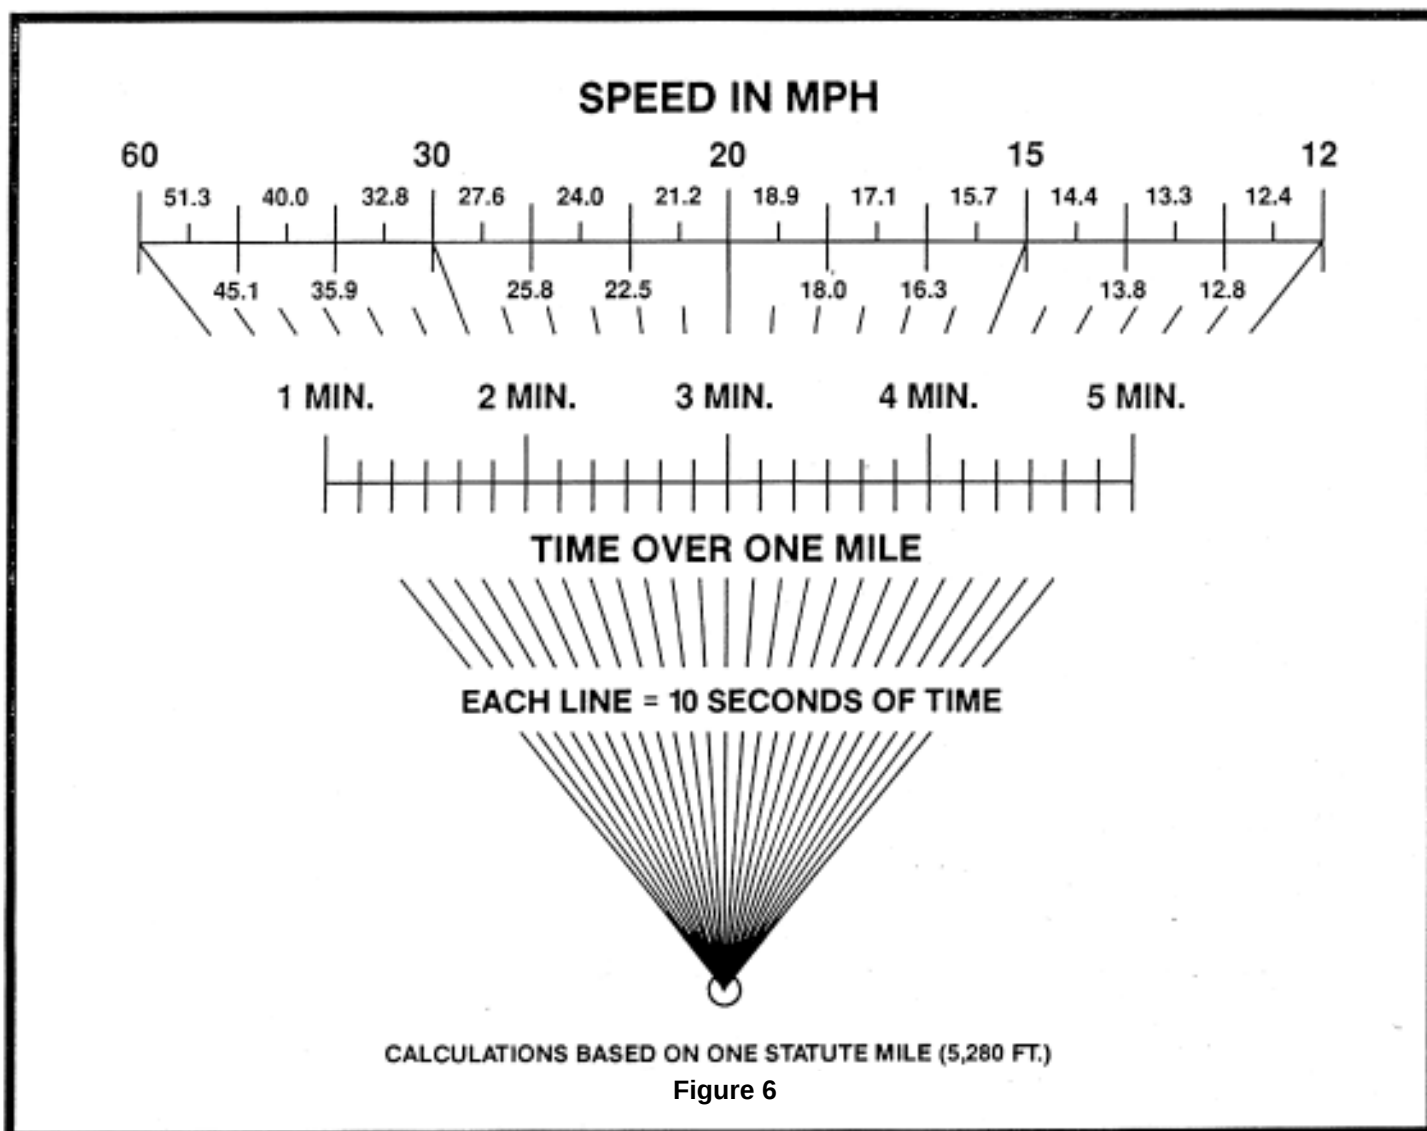

Figure 6
- If you have access to a Water-ski Slalom course, run through the course at a set speed of 36 MPH. Refer to the chart (Figure 6) below. If your time is higher than 16.28 seconds, you must rerun the course, adjusting your boat speed faster until you meet the tolerance of 15.88-16.28 seconds.